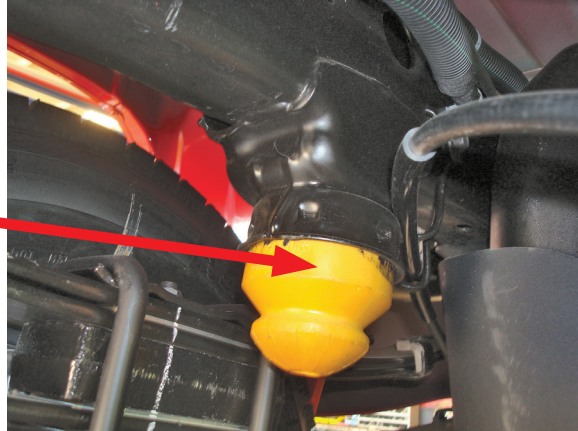

fig. 2
2. Remove the jounce bumpers from the jounce bumper brackets on both sides by prying them out with a pry bar or large screwdriver (Figs. 2 & 3).